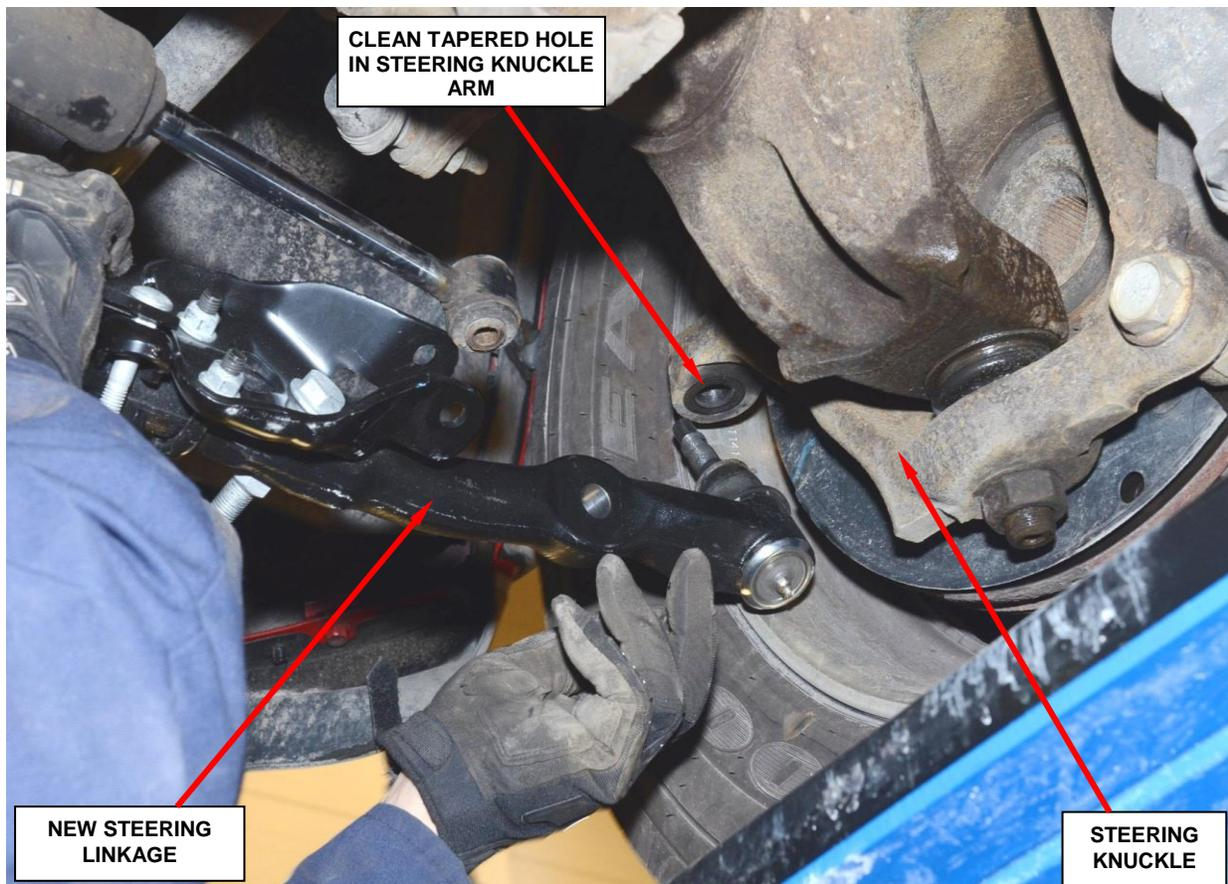

Figure 2 – Clean Tapered Holes in Steering Knuckle Arms
10. Using brake clean or equivalent, clean the tapered holes in the steering knuckles of all grease and dirt (Figure 2).